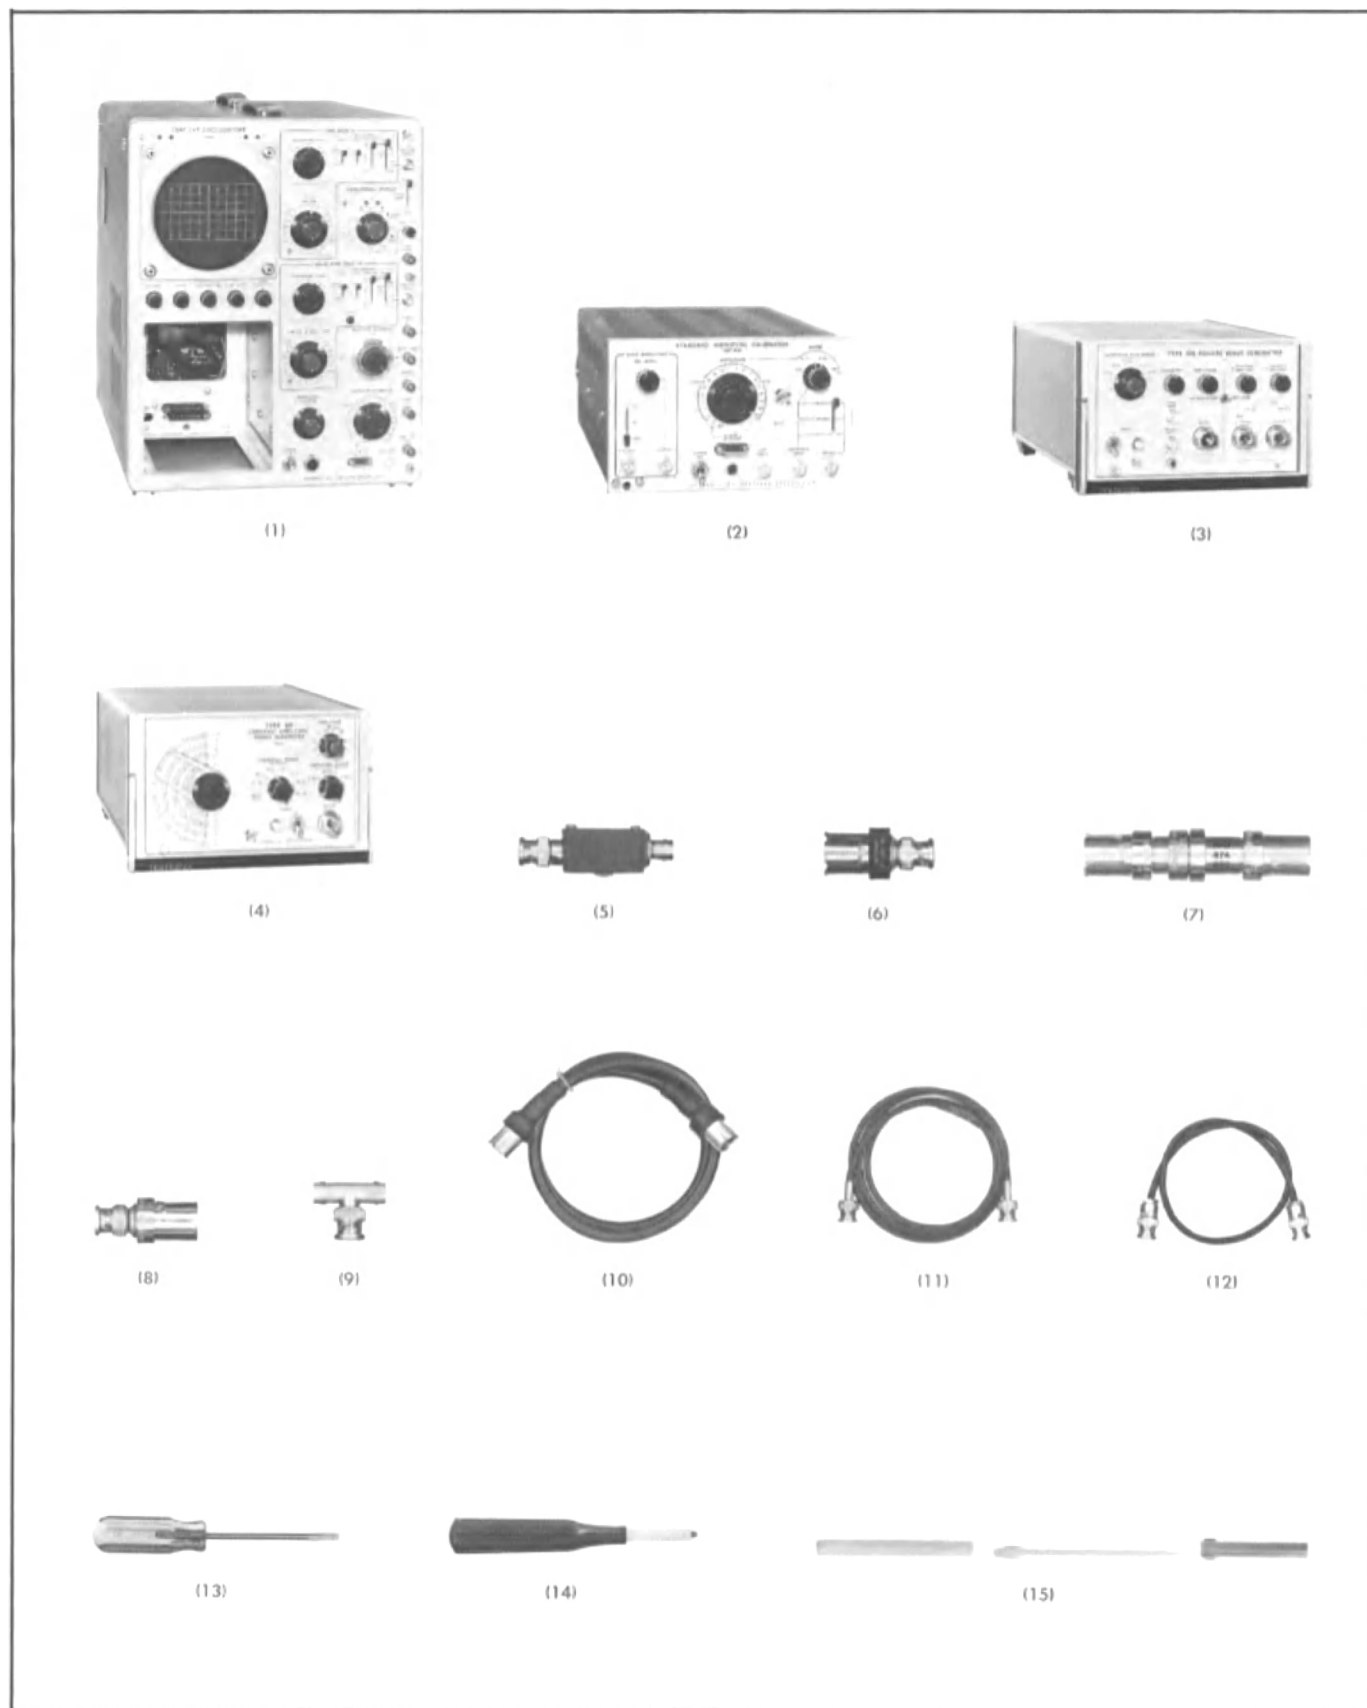

Fig. 7-1. Test equipment, accessories and tools recommended for complete calibration of the Type 1A1.
The following test equipment (items 1 through 4; see Fig. 7-1) or its equivalent, is required for complete calibration of the Type 1A1. Specifications given are the minimum necessary for accurate calibration of this unit. All test equipment is assumed to be correctly calibrated and operating within the given specifications. If equipment is substituted it must meet or exceed the specifications of the recommended equipment.